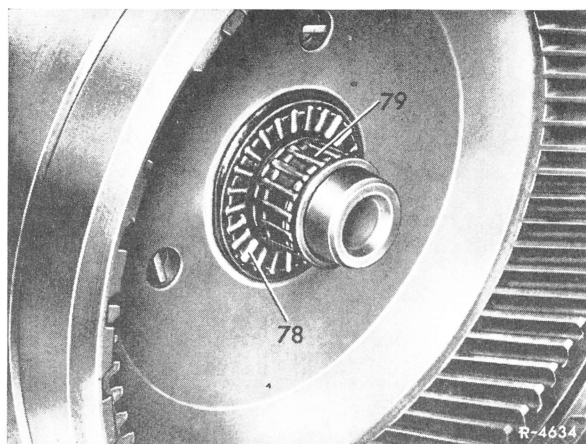

Fig. 51
**76** Insert axial bearing (78) and radial bearing (79) with grease into gear assembly (Fig. 51).